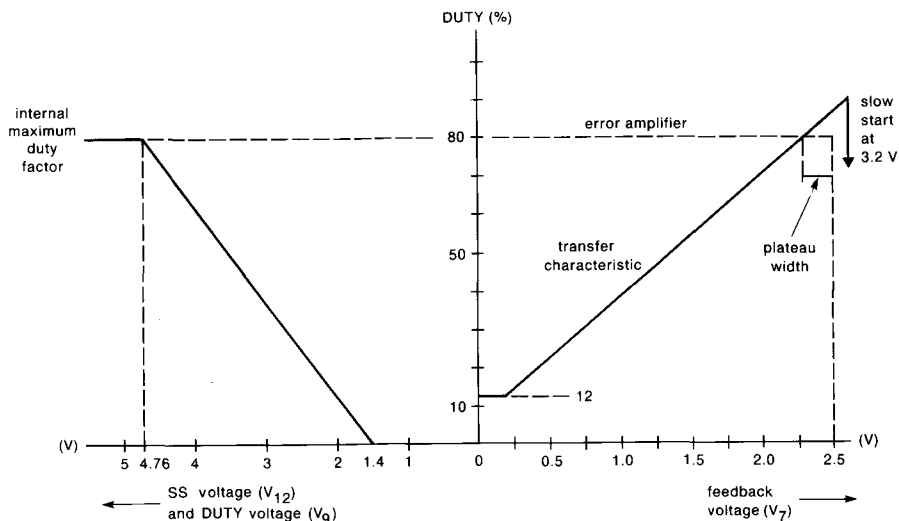

Fig.7 The duty factor as a function of the FB, SS and DUTY voltages.
The feedback (FB) input (pin 7) is used as the input to the Transfer Characteristic Generator (TCG) circuit which ensures well defined duty factors at low FB voltages; a voltage foldback is an inherent characteristic. In Fig.7, the duty factor is shown as a function of the voltages at the FB, DUTY and SS inputs. The input which gives the lowest duty factor overrides the others.